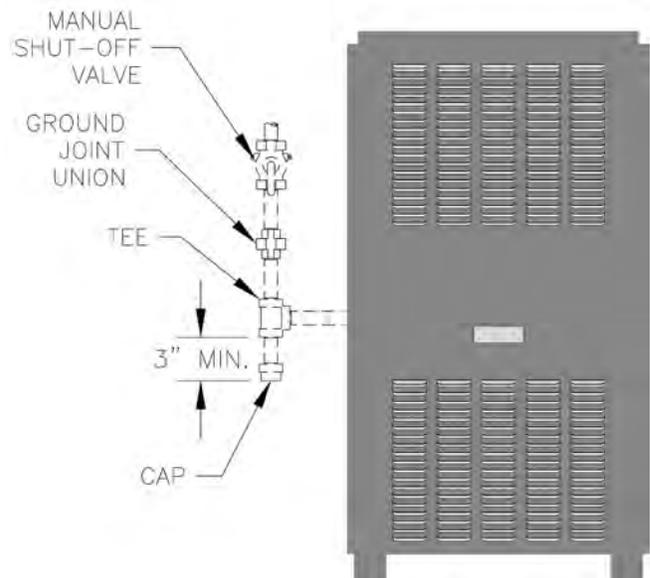

Figure 16: Recommended Gas Piping
3. Install sediment trap, ground-joint union and manual shut-off valve upstream of boiler gas control valve and outside jacket. See Figure 16.
2. Each boiler must be piped as shown in Figure 16.